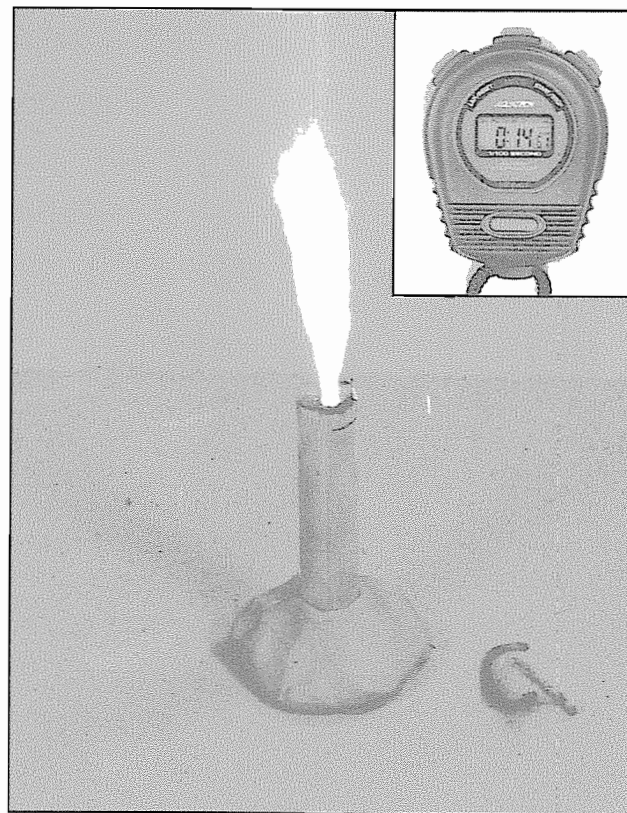

**Figure 10-70.** The end of the dried time delay is painted with a small amount of the black powder igniter syrup described on **pages 457 - 458**.
1. Saw the excess cardboard casing back to within 1/4" of the end of the propellant (**Figure 10-69**). Then paint the end of the propellant (**Figure 10-70**) with a small amount of the black powder igniter syrup described on **pages 459 - 460**, and let it thoroughly dry.